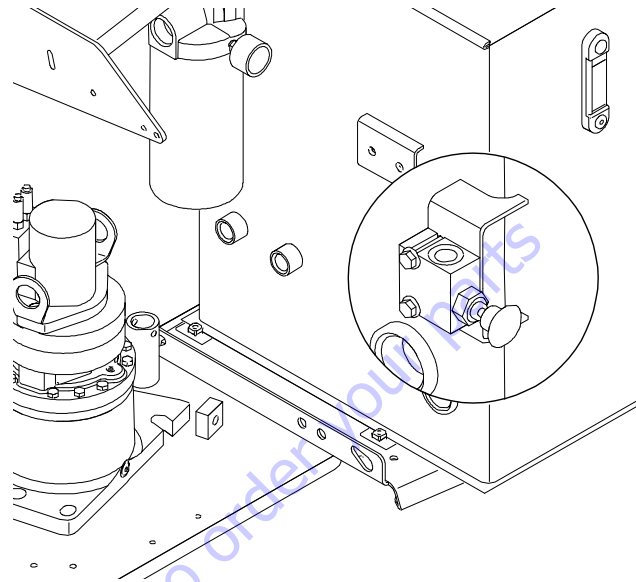

Figure 4-7. Releveling Valve
A pull type control valve allows the operator to adjust the upright level cylinder if the upright is not 90° (vertical) relative to the chassis (Refer to Figure 4-7.). This valve is located in the tank compartment area.
3. Pull and hold the red releval knob located next to the main control valve. Refer to (See Figure 4-7.)